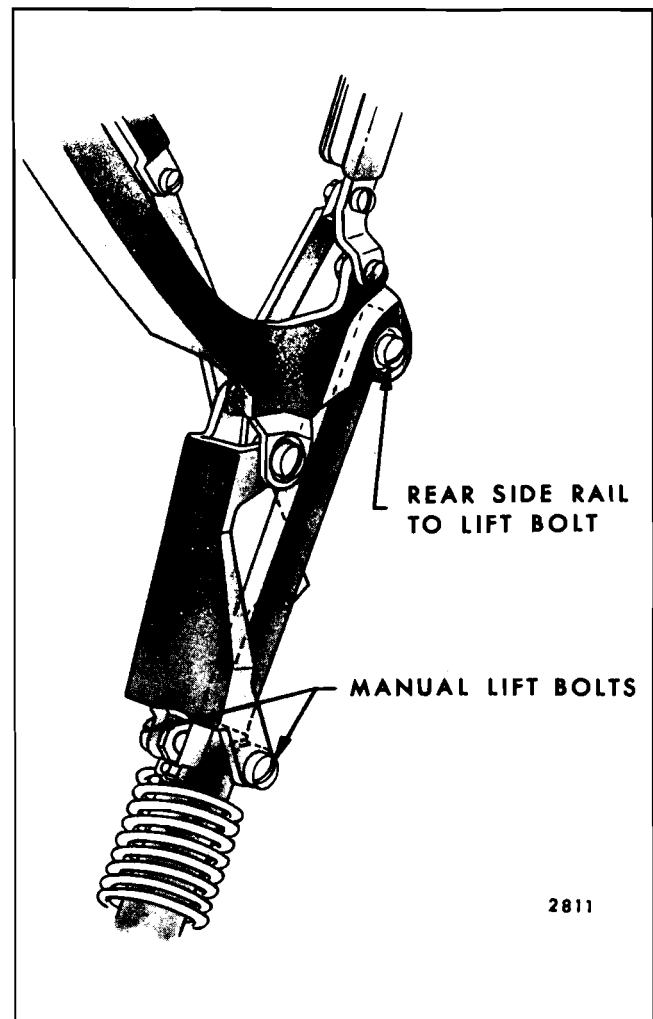
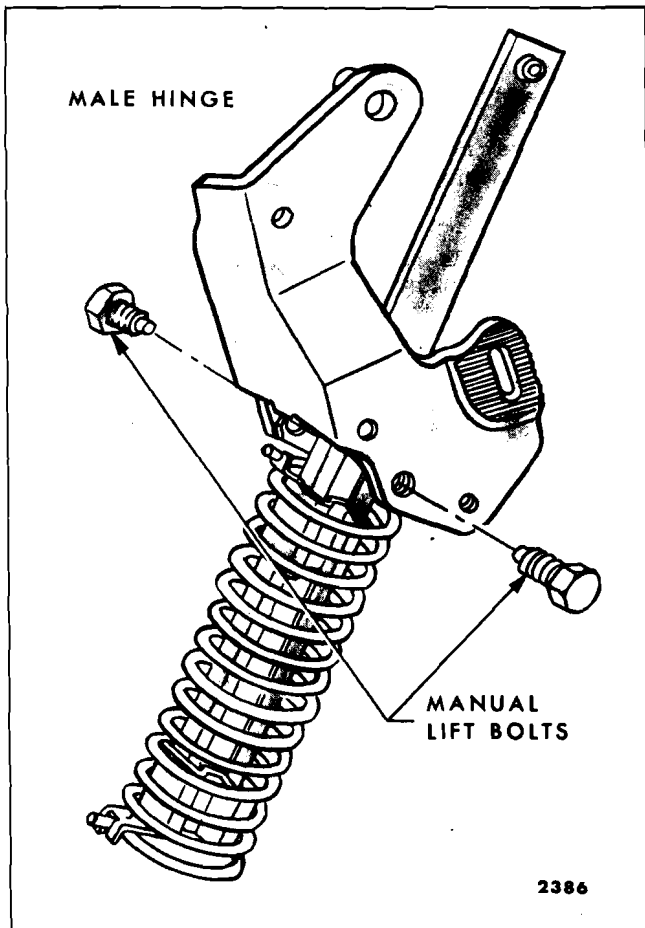
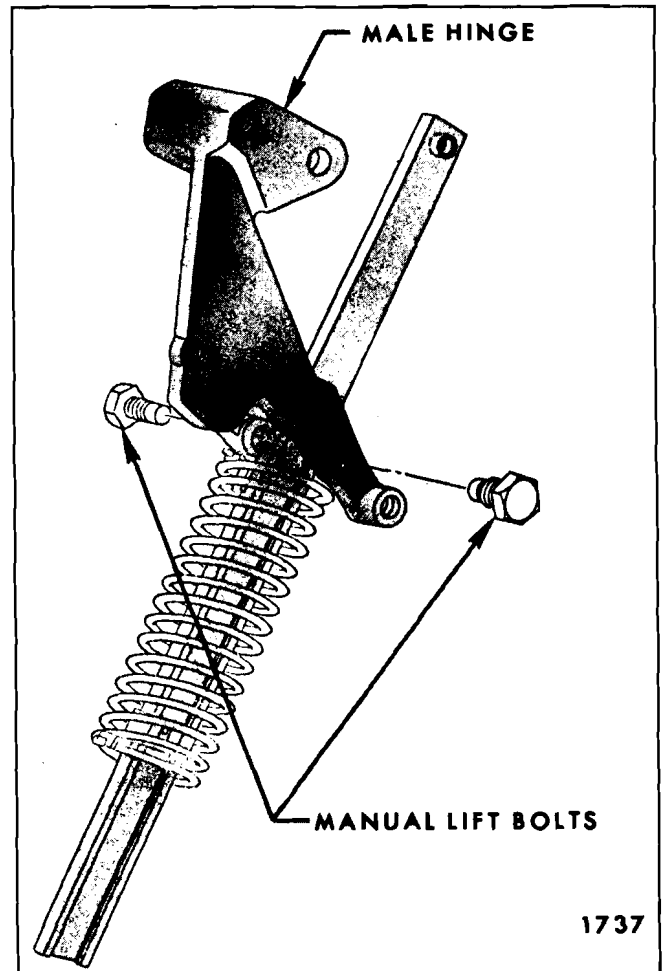

Fig. 13-76—Folding Top Manual Lift Attachment - "A" Styles
Fig. 13-77—Folding Top Manual Lift Attachment - "F" Styles
Fig. 13-78—Folding Top Manual Lift Attachment - "Z" Styles
4. On "F & Z" bodies, remove inner and outer bolt securing lift assembly to male hinge; then remove assembly from body. On "A" bodies, remove inner bolt and slightly move lift assembly inboard and remove. (Fig. 13-76 for "A" body, Fig. 13-77 for "F" body, and Fig. 13-78 for "Z" body.)